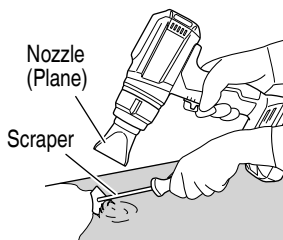

Fig. 13
1. Peeling off paint (Fig. 13)